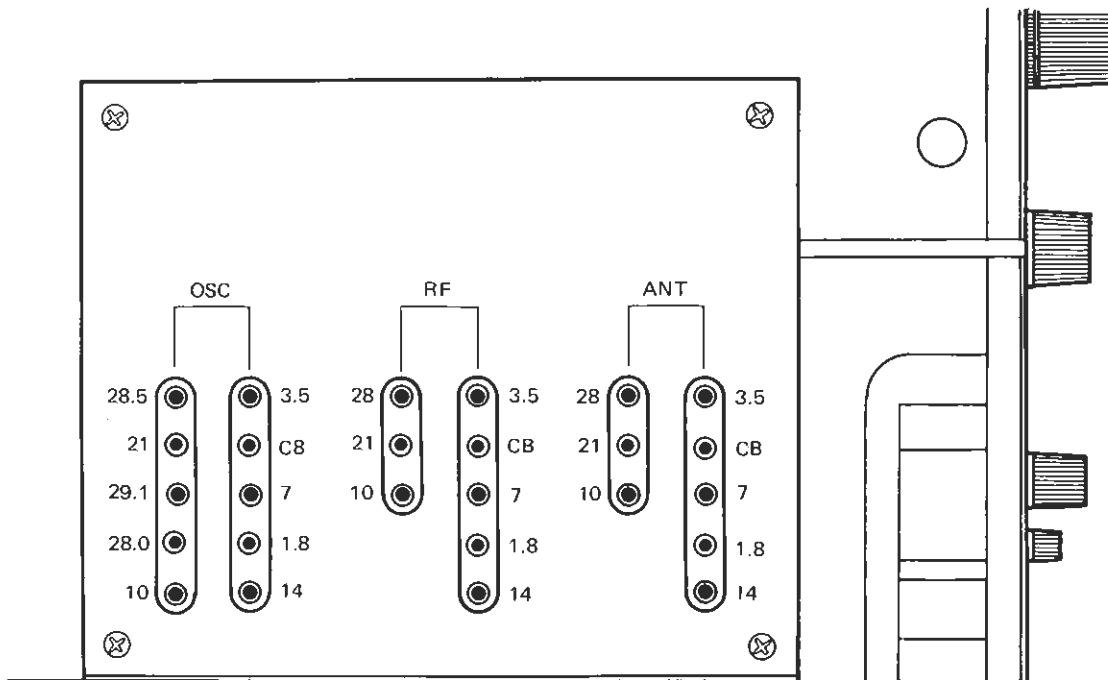

Fig. 5
A. OSC coil adjustment (Refer to Fig. 5)
(1) Purpose
(1) Purpose (Refer to Fig. 5)